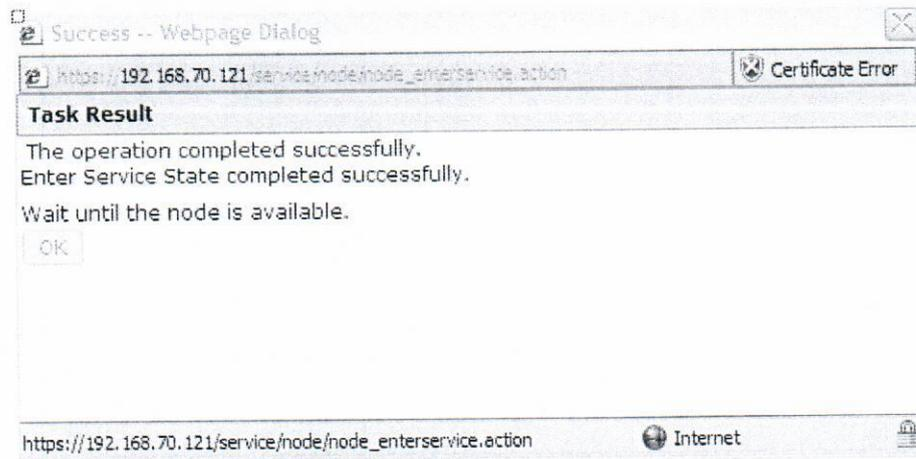

Figure 14 WEB Page dialog window
16) A WEB Page dialog window “Task Result” window will appear (figure 14)